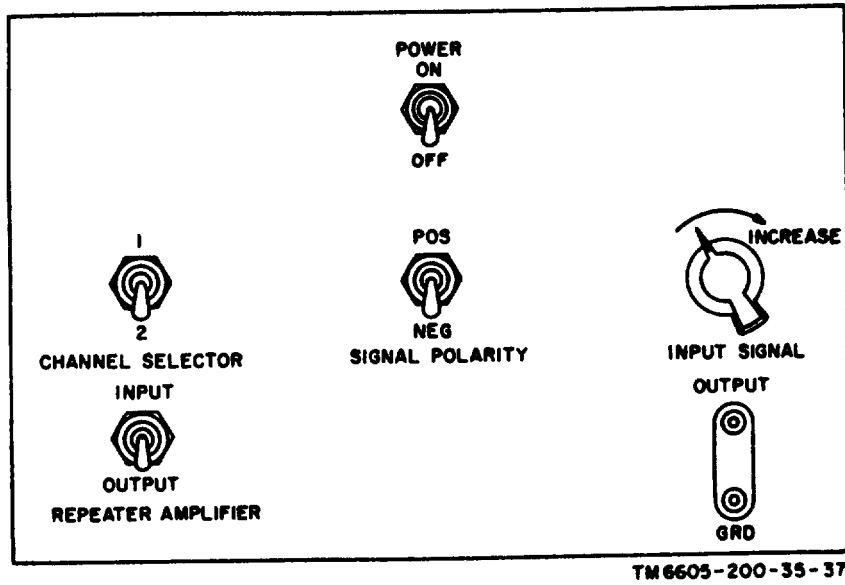

Figure 10. Control-location diagram of test jig for Repeater Amplifier Type B-7A.
a. A test jig must be constructed for fourth and fifth echelon final tests of Repeater Amplifier Type B-7A (auxiliary equipment). Materials required are listed in *b* below; figure 9 is the schematic diagram, and figure 10 is a con-
(fig. 10)